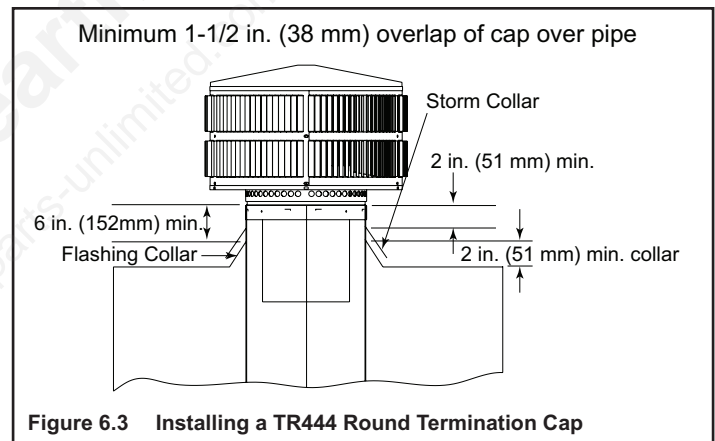

Figure 6.3 Installing a TR444 Round Termination Cap
- Install the chimney sections up through the chase enclosure. When using a TR444 Round Termination Cap, the uppermost top section of pipe must extend 6 in. (152 mm) above the top of the flashing collar to allow installation of the storm collar and termination cap. See Figure 6.3.